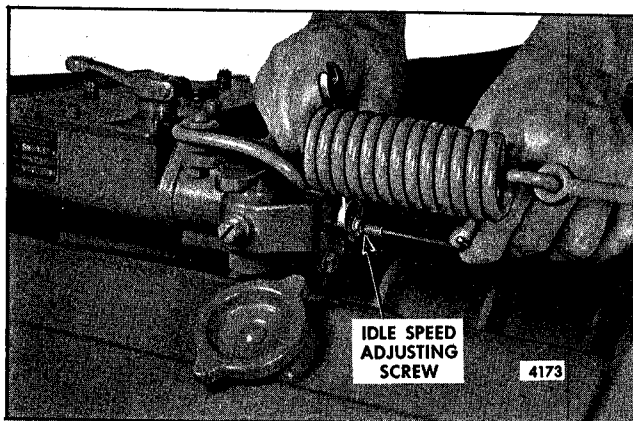

Fig. 26 - Adjusting Idle Speed
2. With the engine operating, loosen the lock nut and turn the idle speed adjusting screw (Fig. 26) in or out until the engine idles at 600 rpm.